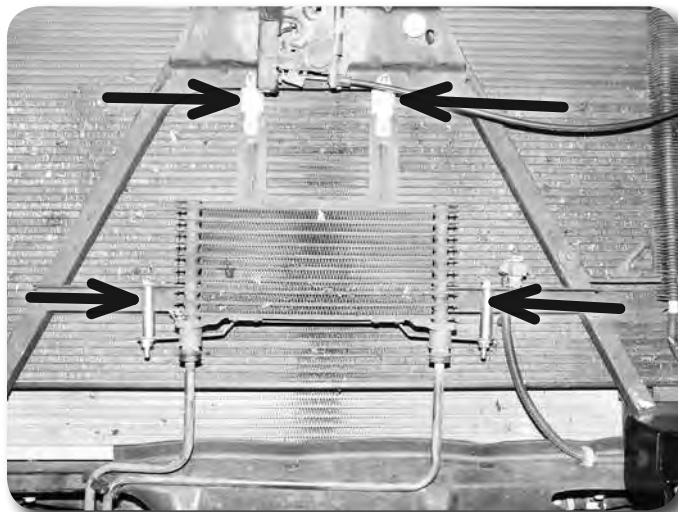

Figure 23
55. Position the provided oil cooler spacer sleeves (1/2" OD x 2" Long) between the two bottom oil cooler mounting tabs and the original mount on the core support **Figure 23**. Fasten the spacers and cooler to the core support with the provided 1/4" x 3" bolts, nuts and 1/4" USS washers. Torque to 15 ft-lbs.
56. Mount the cooler lines back in the plastic retaining clip at the bottom of the core support **Figure 23**.